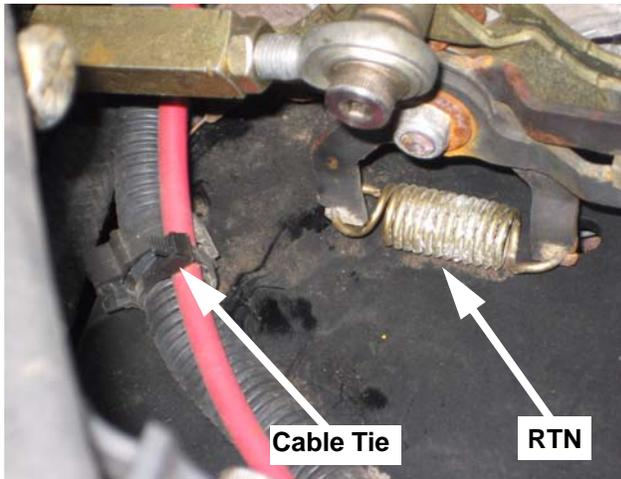

FIGURE 3
10. Make sure the red positive battery cable secured to the black conduit covered wire harness is located away from the hydraulic pump linkage and return to neutral (RTN) mechanism. See Figure 3.